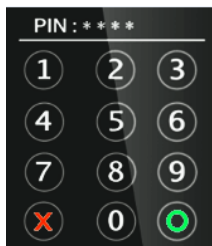

Figure 5
After inserting the chip card, Press the numeric key on virtual keypad (**Figure 5**) shown on the display to enter the password. Press Cancel (X) key to terminate any current function and press the Enter (O) key to confirm a value or an option.